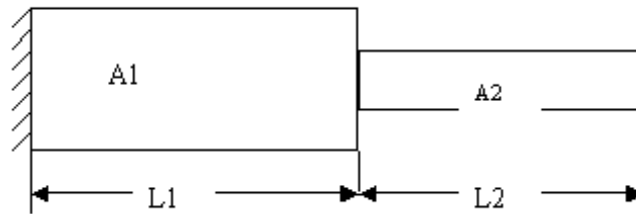

Figure 3:
7. For the stepped bar shown in the figure 3.